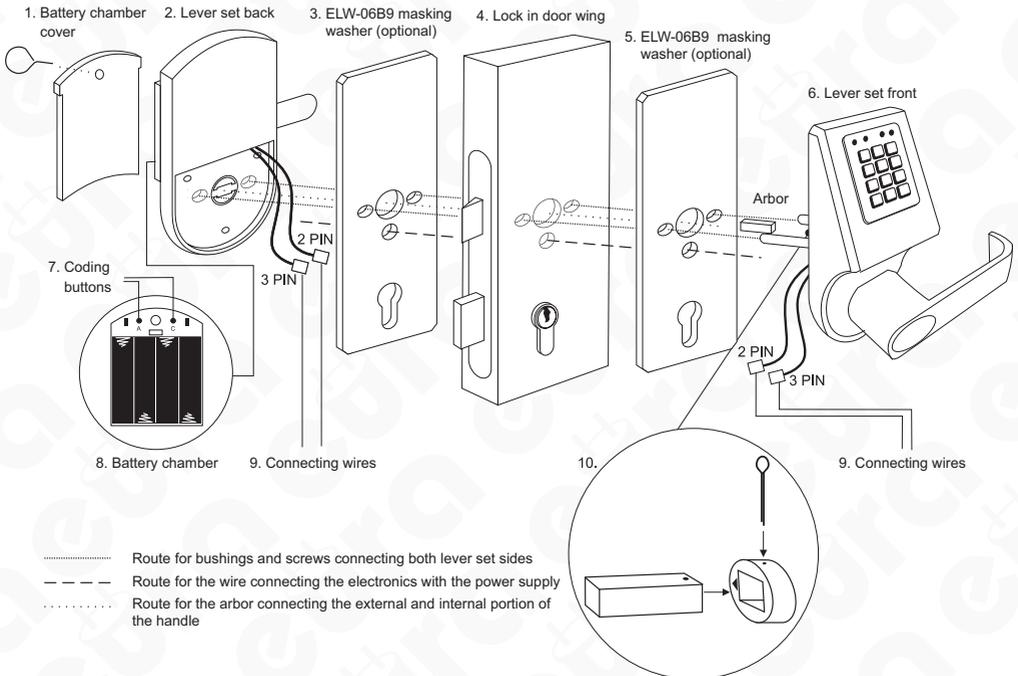

Fig. 9.
The arbor shall be placed in the socket located in the device body marked with triangle (Fig. 9, Item 10), and the install the locking pin located in the accessory set.
By installing the pin in the arbor remember that the element located on the lock body is directed towards the handle (Fig. 9, Item 10 and item 5.3).
- remove the cover of the battery chamber (Fig. 9, Item 1) using a special key included in the set or other sharp tool
- code the lock (see item 7)
The battery chamber is located on the external portion of the door handle set (installed from the side of the room). Prior to the first start up and programming of the lock, place 4 working 1.5V batteries type AA in the battery chamber and connect all plugs in accordance with the chart shown in Fig. 9, Item 9.
After the batteries are partially depleted, low power supply status will be signalled through a red LED, yet approximately 100 lock opening cycles will still be possible to perform. The lock programming is simple and secure. Programming buttons are located on the internal side of the door handle set, that is from the room side. These are the buttons marked as 'A' and 'C' in Fig. 9, Item 7.
- remove the cover of the battery chamber (Fig. 9, Item 1) using a special key included in the set or other sharp tool,
- single pressing of the 'A' button (Fig. 9, Item 7), will result in activation of the coding mode, which will be signalled by blue LED,
- remove the battery chamber cover (Fig. 9, Item 1) using a special key included in the set or other sharp tool,
- single pressing of the 'A' button (Fig. 9, Item 7), will result in activation of the coding mode, which will be signalled by green LED,
- press and hold the 'C' button for about 6 seconds (Fig. 9, Item 7), after that the speaker generates a brief sound, and the red LED switches on, and the second sound signal appears in the speaker,
Prior to the first start up and programming, place 4 working 1.5 V batteries type AA in the battery chamber and connect all plugs in accordance with the chart shown in Fig. 9.